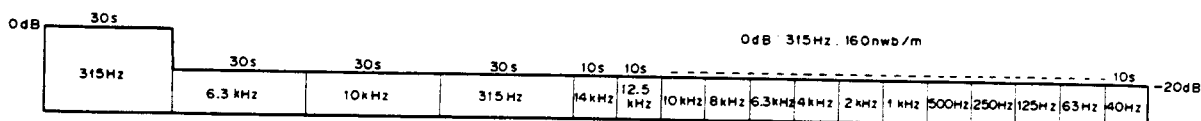

Fig. 7-3 STD-331B test tape
- STD-331B: Playback adjustment (See Fig. 7-3.)